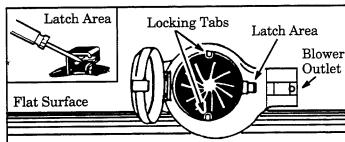

Figure 2
1. Set the unit on a flat surface (Figure 2). Open the vacuum inlet cover as follows:
- a. Insert a screwdriver into the latch area as shown in Figure 2 (inset).